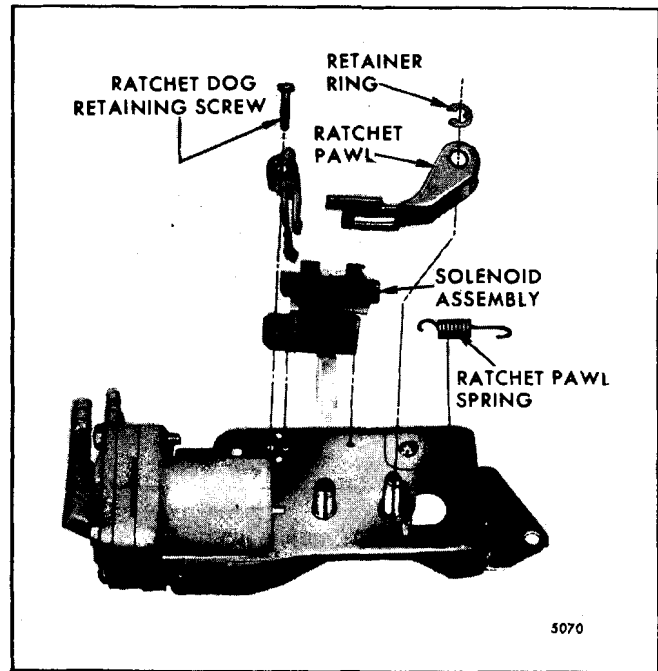

Fig. 2-61-Pump Assembly - Exploded View
2. Separate the ratchet dog from solenoid mounting plate as required (Fig. 2-61).